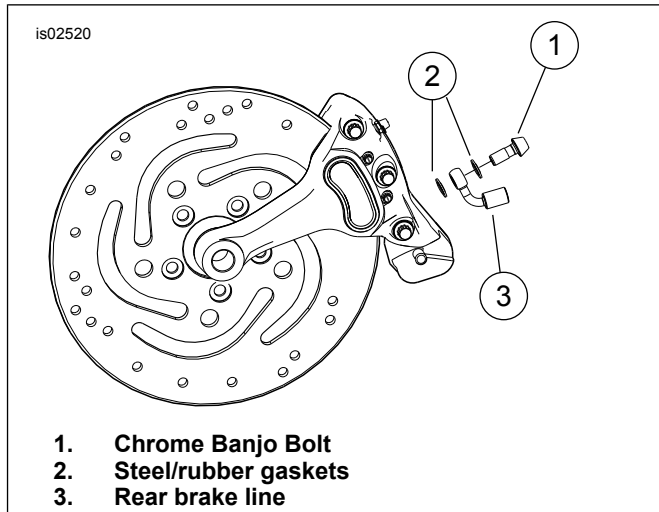

Figure 2. Rear Brake Caliper Installation
3. Install **new** steel/rubber gaskets (2), brake line and banjo bolt (1) onto the caliper in the order shown in Figure 2. Tighten banjo bolt to 23–29.8 N·m (17–22 ft-lbs).